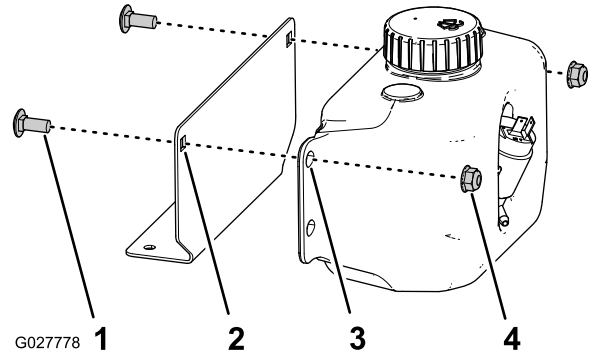

Figure 35
1. Assemble the washer-fluid tank to the washer bottle mount bracket with the 2 carriage bolts (5/16 x 3/4 inch) and 2 locknuts (5/16 inch) as shown in Figure 35.